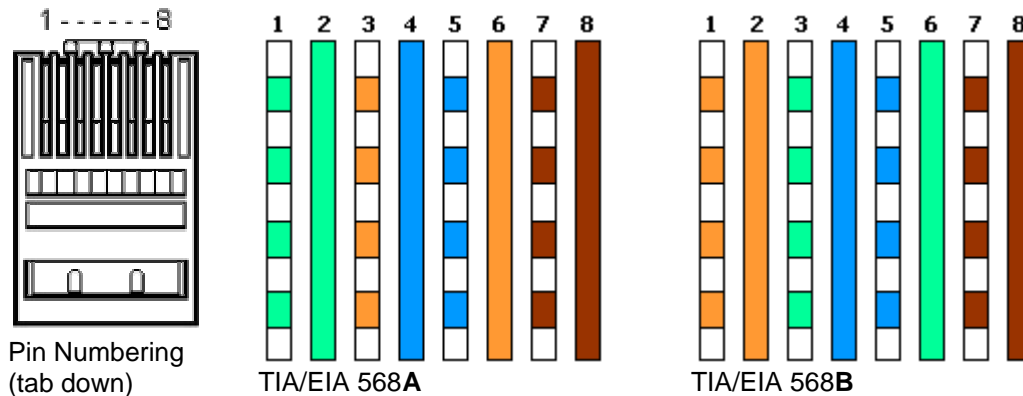

Figure 6.2 - TIA-568A and B wiring color coding
- If you are doing a new installation and you want to confirm which color convention used for a particular cable, the best option is to look at the **far end** of that cable. At the far end you will either have an RJ-45 plug or IDC wiring to the patch panel. Luckily the RJ-45 jacks are transparent and you will be able to see the wires' colors. Holding the RJ-45 plug with its tab facing away from you and contacts facing up according to **Figure 6.2** – check wire color from left (pin 1) to right. If you see the combination on the left side then you have 568A if you see the combination on the right side – then it is 568B. If you see something different – you have a non standard wiring – go to the next paragraph for non-standard cabling.